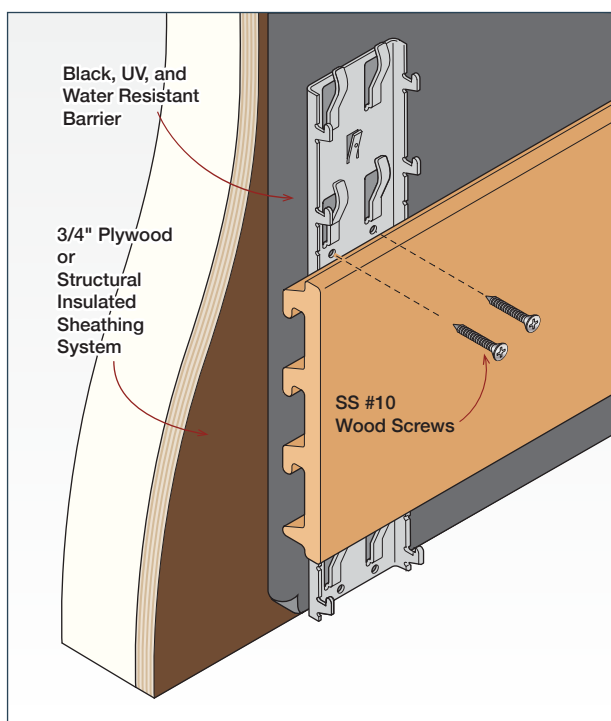

FIG. H1
- (AFC's Recommendation) Attach 3/4" Pressure Treated Plywood or Structural Insulated Sheathing to the studs. (FIG. H1 & H2)
- Plywood Attachment (FIG H1 & H2): Use a #10 stainless steel wood screw (By AFC)